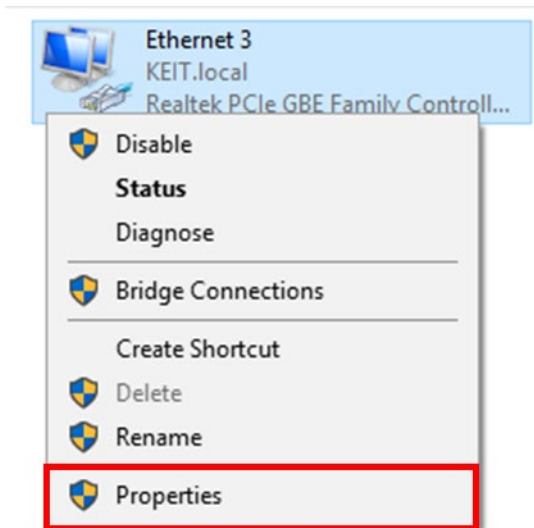

Figure 6 Change adapter settings
2.2.3. Right-click on the relevant network connection ('Ethernet 3' in Figure 6, below) and click *Properties*. You will need to enter the administrator password, which can be found on the sticker on the front of your controller (or, if you have an integrated controller, is shared with you electronically).